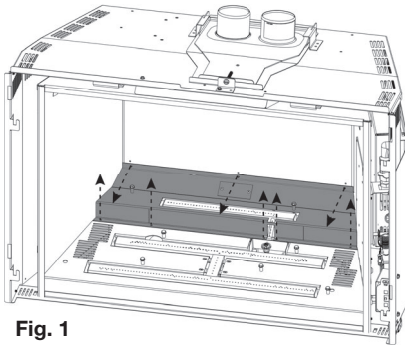

Fig. 1
- 2. Remove the 8 screws securing the upper burner support in place. Lift the upper burner support up and out (Fig. 1).